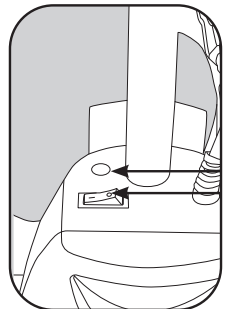

Fig. 5
1. To turn the vacuum on, push the switch located on the dust compartment to the ( I ) position (Fig. 5).
The full bag indicator is designed to show when the bag is full or when there is a clog in the vacuum. (Fig. 5).